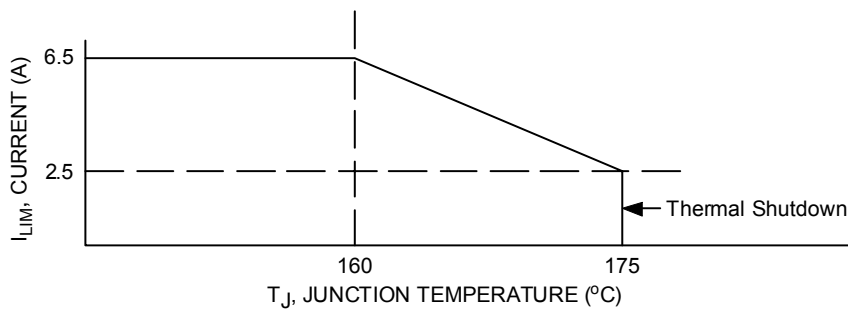
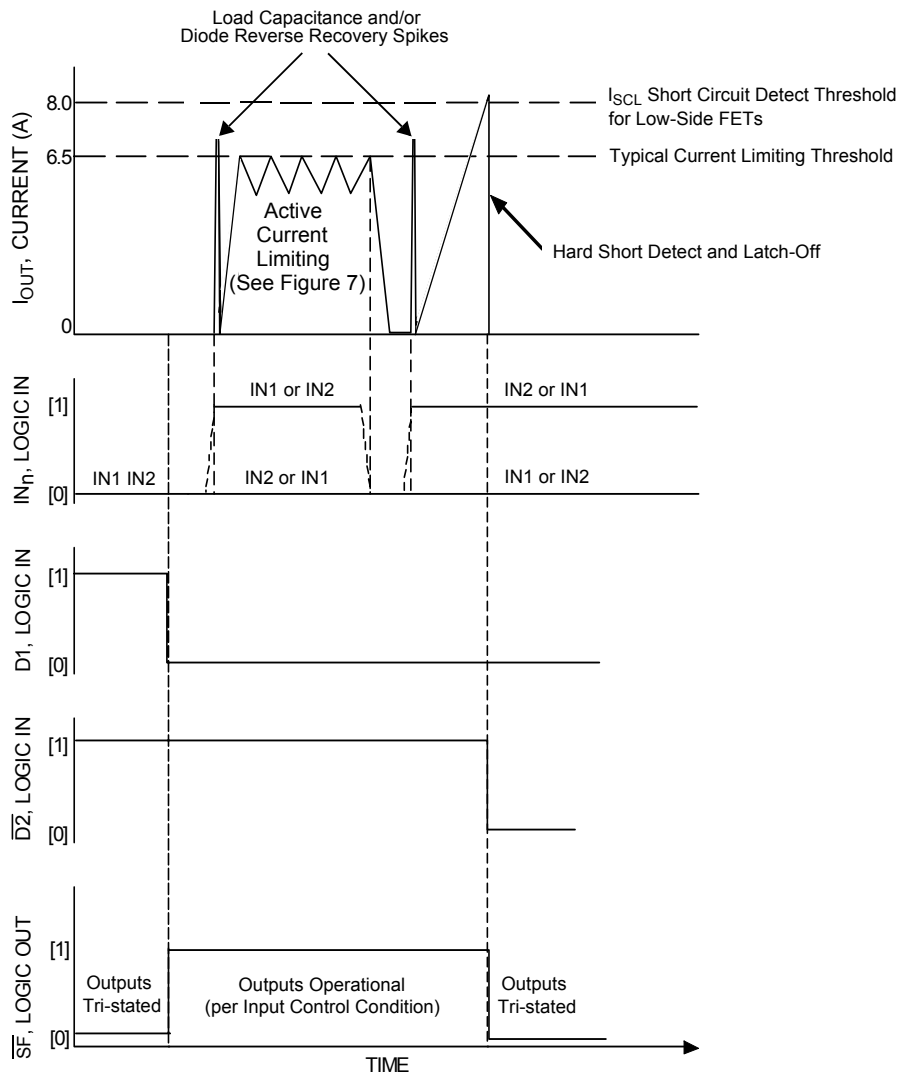

Figure 5. Active Current Limiting Versus Temperature (Typical)
Figure 6. Active Current Limiting Versus Time
- Increasing currents will become limited at  $I_{\text{LIM}}$ . Hard shorts will breach the  $I_{\text{SCH}}$  or  $I_{\text{SCL}}$  limit, forcing the output into an immediate tri-state latch-OFF. See Figures 6 and 7, page 9. Active current limiting will cause junction temperatures to rise. A junction temperature above  $160^\circ\text{C}$  will cause the active current limiting to progressively "fold back" (or decrease) to 2.5 A typical at  $175^\circ\text{C}$  where thermal latch-OFF will occur. See Figure 5, page 8.
The current limiting threshold value is dependent upon the device junction temperature. When  $-40^\circ\text{C} < T_J < 160^\circ\text{C}$ ,  $I_{LIM}$  is between 5.2 A and 7.8 A. When  $T_J$  exceeds  $160^\circ\text{C}$ , the  $I_{LIM}$  current decreases linearly down to 2.5 A typical at  $175^\circ\text{C}$ . Above  $175^\circ\text{C}$  the device overtemperature circuit detects  $T_{LIM}$  and overtemperature shutdown occurs (see Figure 5, page 8). This feature allows the device to remain operational for a longer time but at a regressing output performance level at junction temperatures above  $160^\circ\text{C}$ .